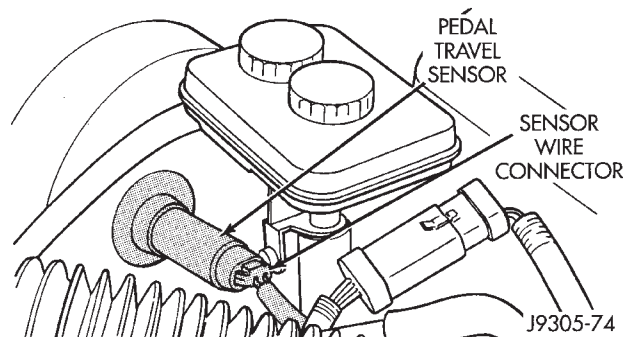

Fig. 4 Pedal Travel Sensor Connector Location
(1) Disconnect battery negative cable.
(2) Disconnect pedal travel sensor wire connector (Fig. 4).